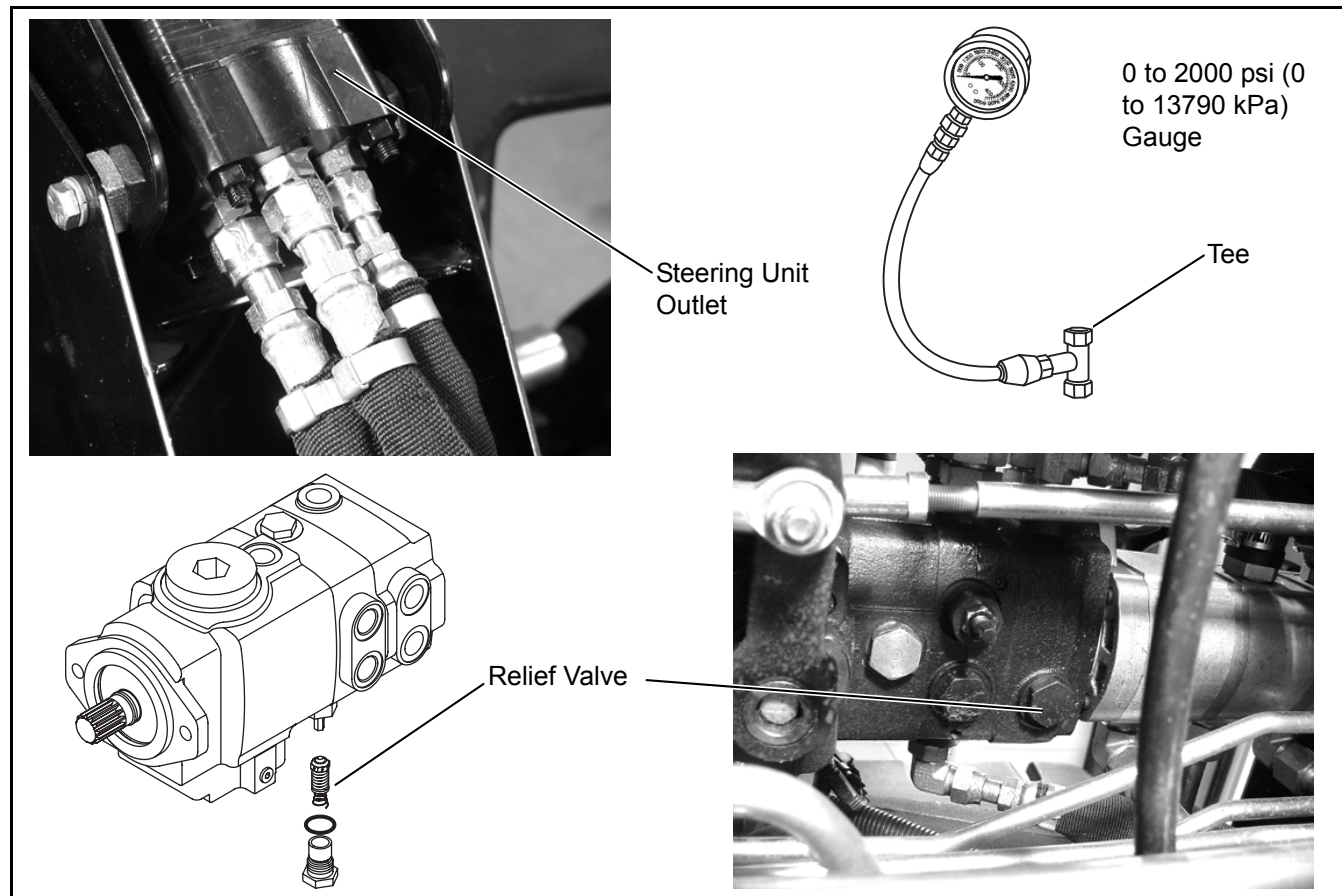

Figure 8O-3. Steering Circuit Test
2. Install a 2000-psi (13790 kPa) pressure gauge with a quick connect fitting on the quick fitting located on the lift valve; see Figure 8O-4.